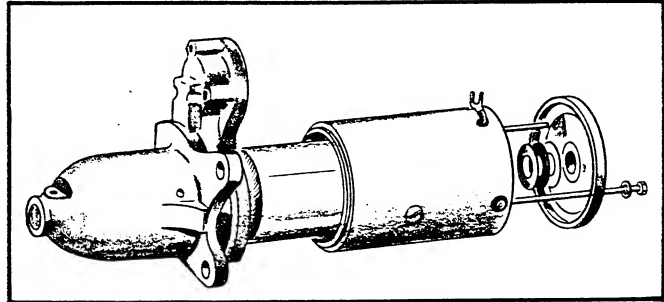

FIGURE 32. REMOVING THROUGH BOLTS
2. After removing the thru bolts, the starting motor can be divided into three parts — the front bracket, housing and rear bracket. The spacing washers shown in Figure 32 are used for adjustment of